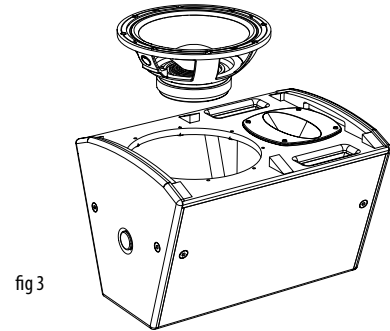

fig 3
3. Disconnect and remove the bass driver, making a note of the polarity for later reconnection (fig 3).